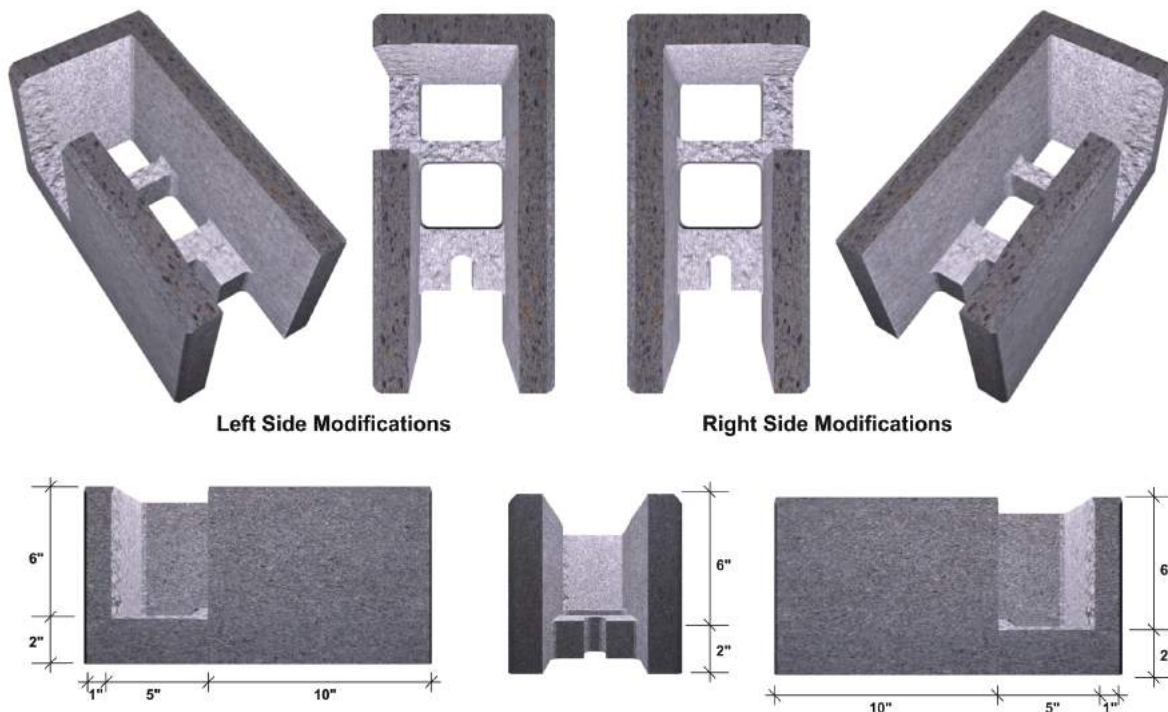

Fig. 4.33
2. Notch one side of each of the corner bond units to allow the flow of grout and the placement of rebar around the corners. If corner bond units are not available, modify standard corner units to accomplish the same task (*Fig. 4.33*).
2. Notch one side of each of the corner bond units to allow the flow of grout and the placement of rebar around the corners. If corner bond units are not available, modify standard corner units to accomplish the same task (Fig. 4.33).